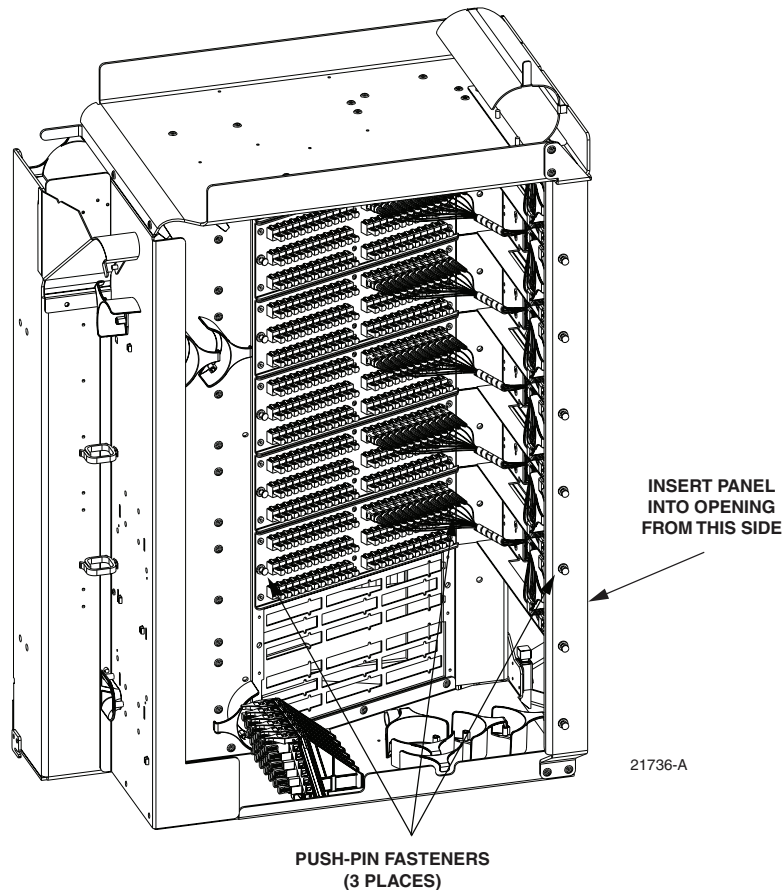

Figure 19. Placing Connector Panel In Position For Mounting
9. Place the connector panel in position for mounting on the **rear** side of the swing frame as shown in Figure 19. Use the plastic push pins provided to secure the connector panel to the rear side of the swing frame.